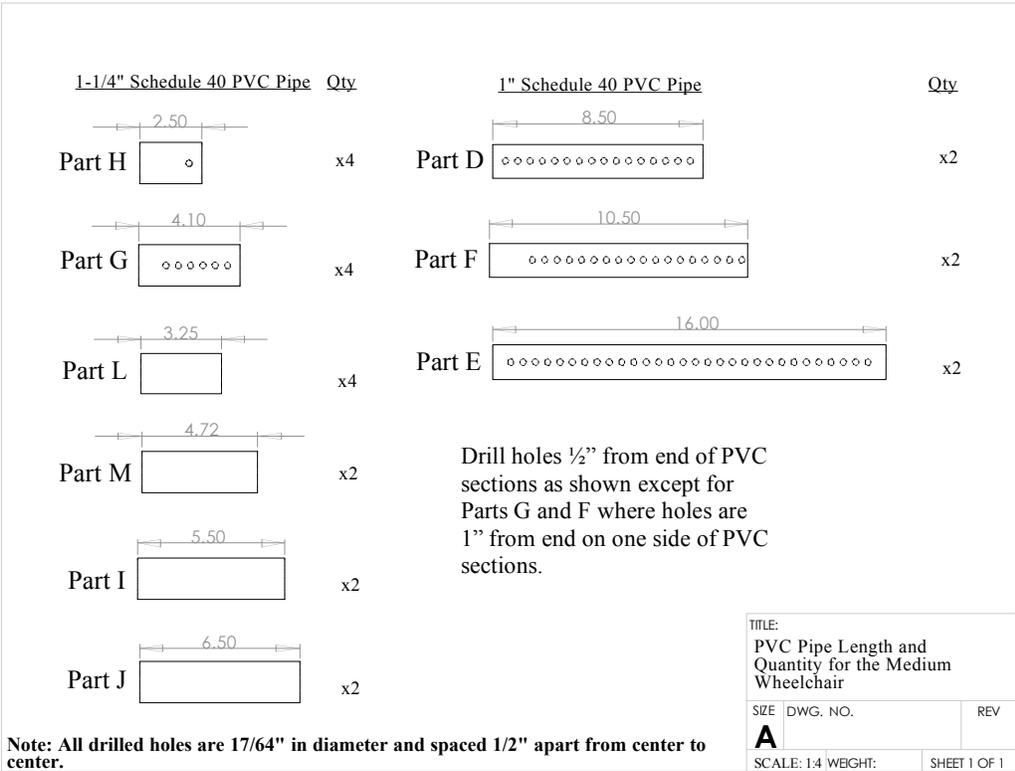
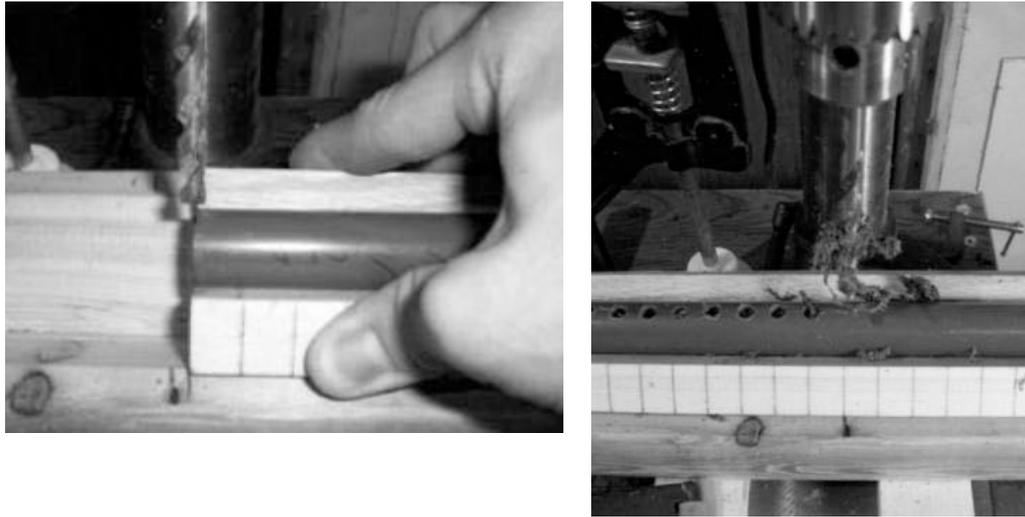

FIGURE 2 – Linear Sections of PVC Pipe and Quantities for Medium Wheelchair.
FIGURE 5 – Step 1 – Drilling Holes.
- Adjustable wrench (2)
**Step 1:** Cut linear sections of PVC to lengths specified in Figure 2 (medium-sized wheelchair) or 3 (large-sized wheelchair). Mark locations and drill holes as specified in Figure 2 or 3 (depending upon wheelchair size) using a drill or preferably drill press (Figure 5). Be certain to align all holes at the mid-point of the PVC pipe section and assure that holes are parallel to each other. Failure to do so will result in difficulty in adjusting wheelchair dimensions. (Details on constructing a jig to aid in drilling the holes in PVC pipe will be forthcoming.)